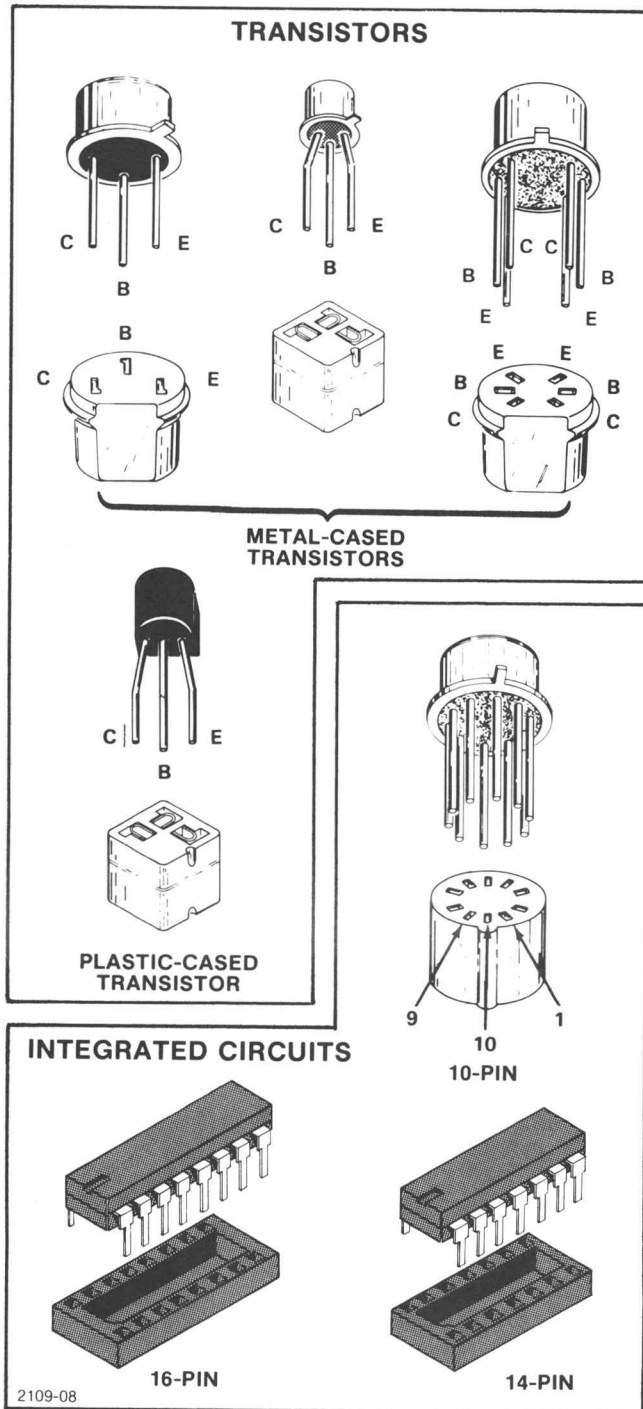

Fig. 6-4. Transistor and integrated circuit basing illustration.
Transistor and Integrated Circuit Lead Configurations. Fig. 6-4 illustrates the lead configurations for the socket-mounted transistors and integrated circuits (IC) used on the circuit board.